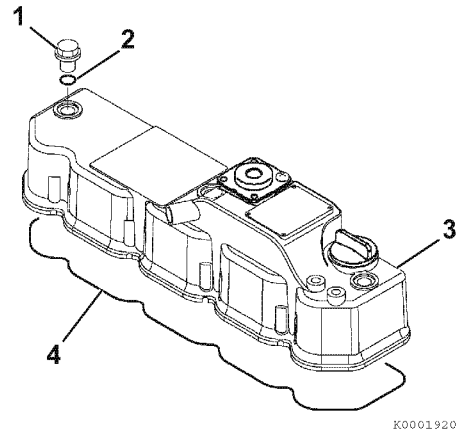

Figure 6-5
2. Remove the valve cover nuts (Figure 6-5, (1)).
3. Remove the O-ring (Figure 6-5, (2)) on each valve cover nut.
4. Remove the valve cover (Figure 6-5, (3)) and the valve cover gasket (Figure 6-5, (4)).